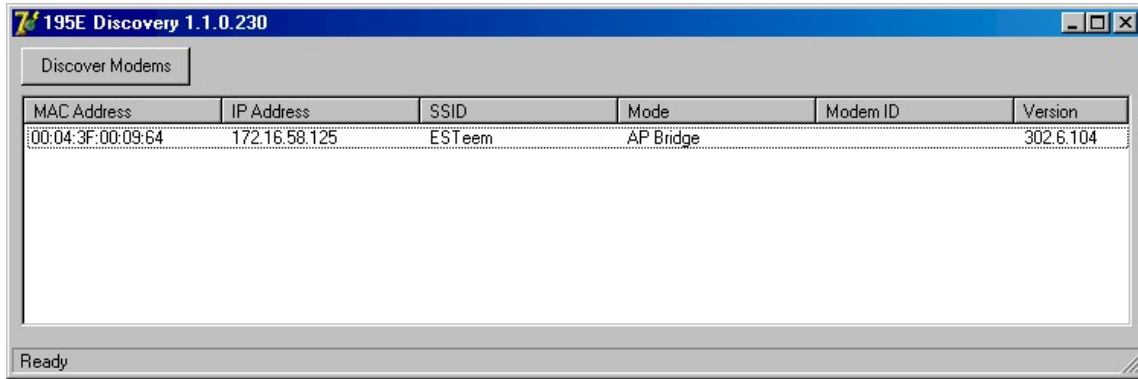

Figure 7: Discovery Program Main Page
4. Connect the Model 195Ep to your computer either direct to the Ethernet card or through a HUB/Switch using a CAT-5e Ethernet cable. The Ethernet port on the 195Ep supports Auto-Negotiation so either a patch cable or crossover cable will work. Open the ESTeem Discovery Program and press the **Discover Modems** button. The Model 195Ep will be displayed in the program by the Ethernet MAC address and Current IP Address (Figure 7).